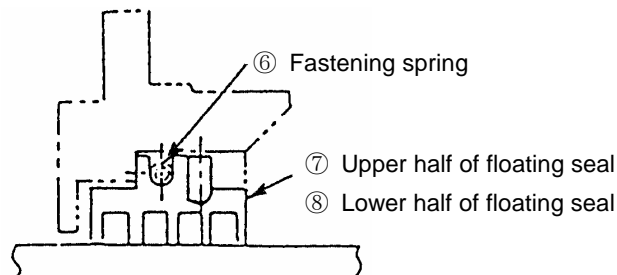

Figure 16 Disassembling the Floating Seal
10.4.2.5 Disassembling the Floating Seal (See Figure 16)